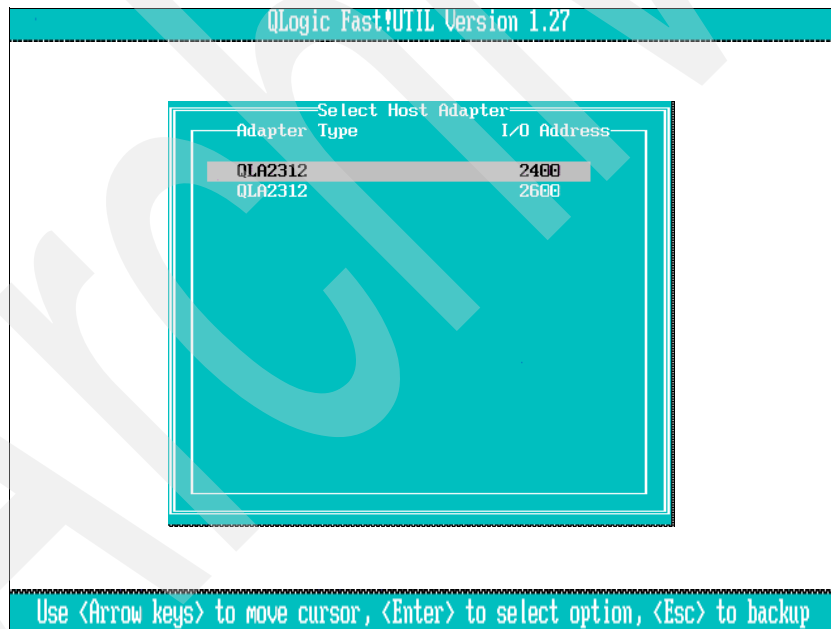

Figure 5-48 Select the first HBA
2. In the QLogic Fast!Util, highlight the first HBA and press Enter, as shown in Figure 5-48.